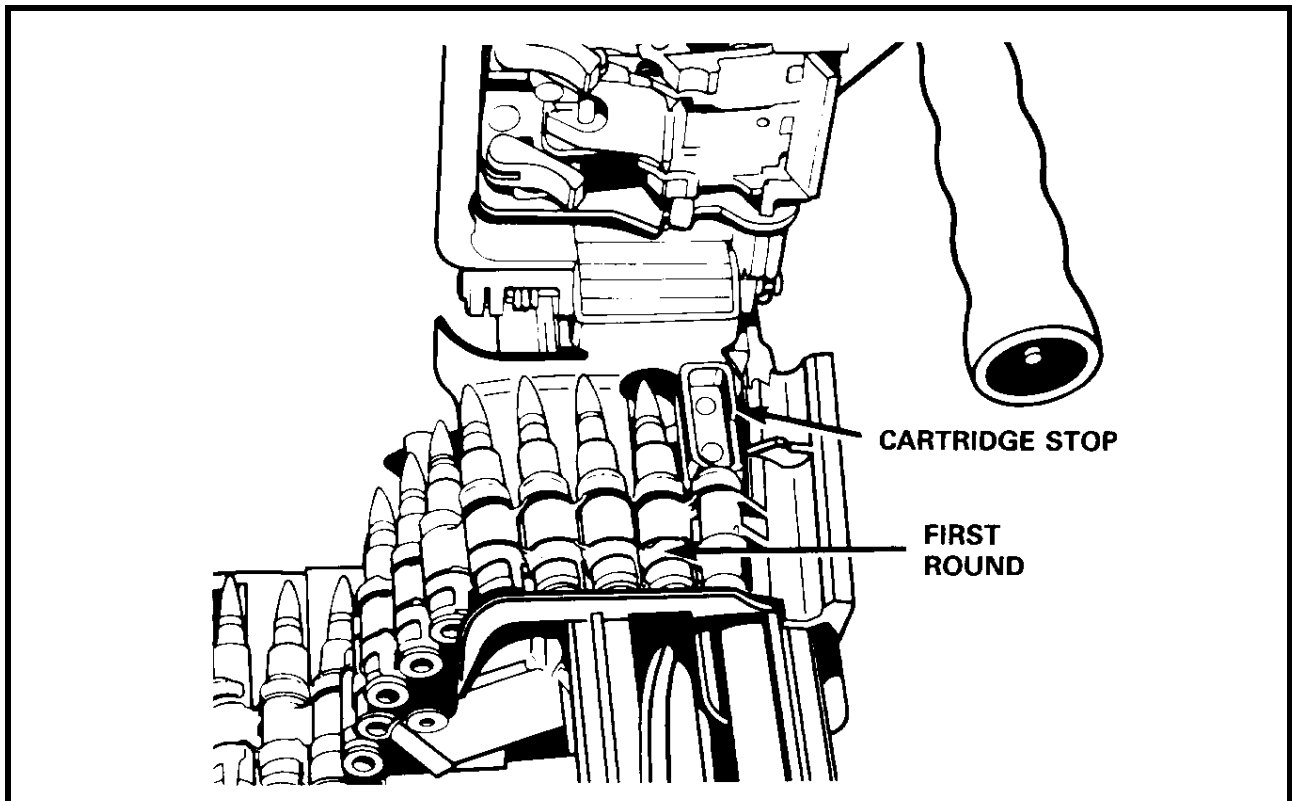

Figure 2-20 Cartridge Stop
- b. At the end of the sight-setting demonstration, point out the cartridge stop to the soldiers in preparation for the loading demonstration (see Figure 2-20).